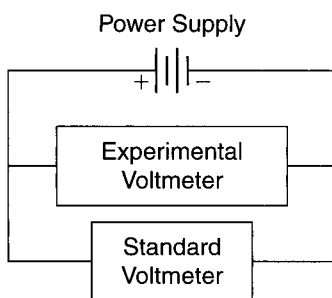

Figure 31-5 Experimental and standard voltmeter in parallel with power supply.
- Compare the experimental voltmeter with the standard voltmeter by connecting them in parallel across the output of the power supply as shown in Figure 31-5. Turn the power supply up slowly until the experimental voltmeter reads exactly $1.00\ \text{V}$ and record the value read by the standard voltmeter at this point. Make this same comparison at 2.00 , 3.00 , 4.00 , and $5.00\ \text{V}$ as read on the experimental voltmeter and record all results in Data and Calculations Table 2.